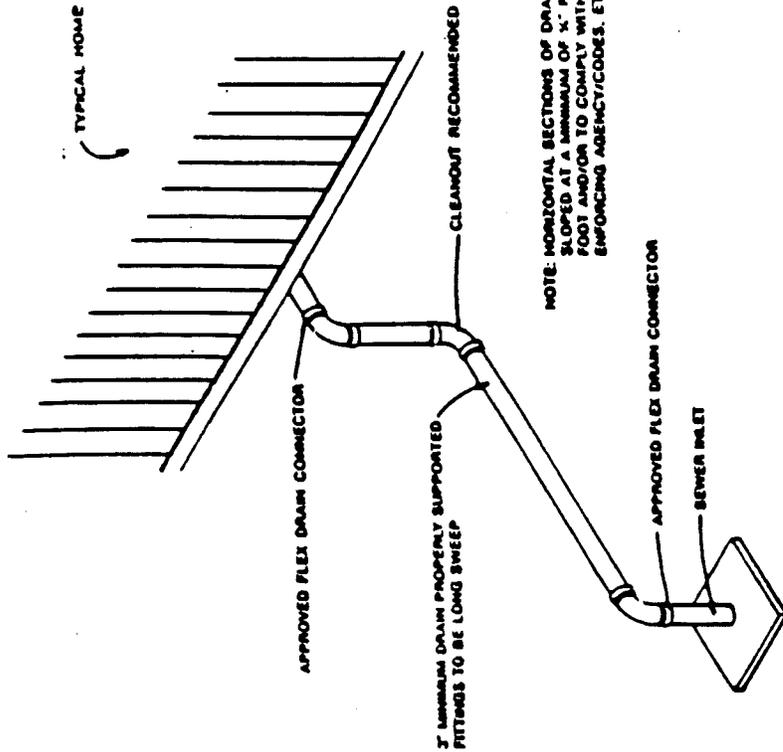
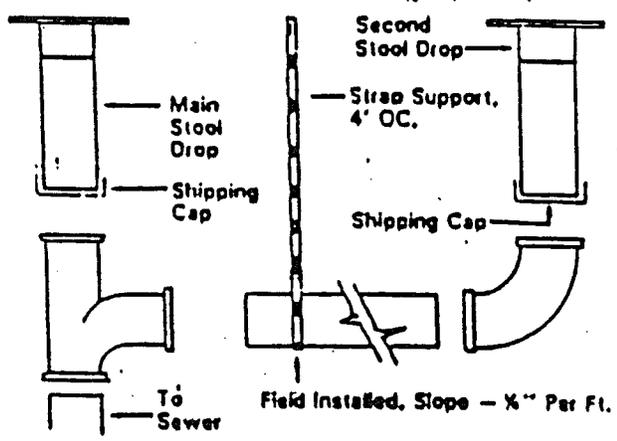

Figure 8.2 - TYPICAL CONNECTION OF MAIN DRAIN TO SEWER
Figure 8.5
- 8.3.2 Proper slopes and connector sizes.** Drain lines must slope at least 1/4" fall per foot of run unless otherwise noted on the schematic diagram (see Figure 8.5). **Exception:** 1/8" fall per foot is allowed when a cleanout is installed at the upper end of the run. Connect the main drain line to the site sewer hookup using an approved elastomer coupler (Figures 8.2 and 8.6).